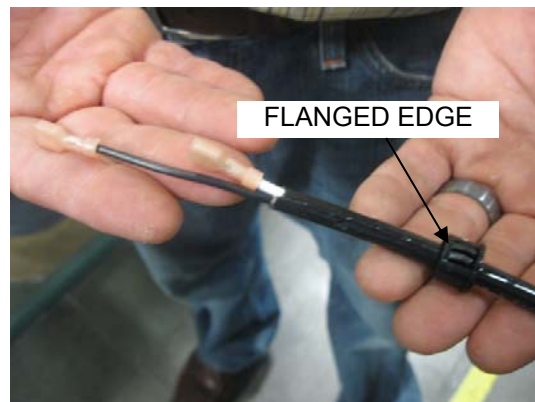

FIGURE 4-29. DISCONNECT BRIDGEPLATE SWITCH CONNECTORS
- 7) Refer to **Figure 4-29**. Ensure grommet is attached to existing bridgeplate switch cable.